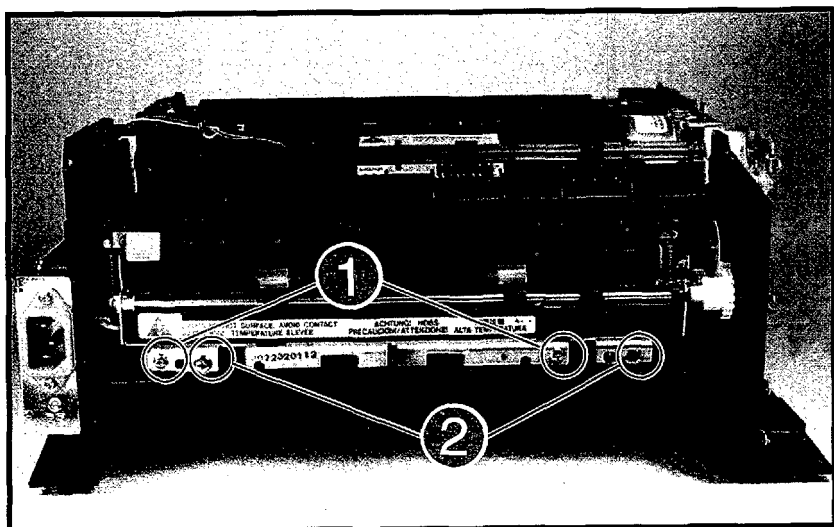
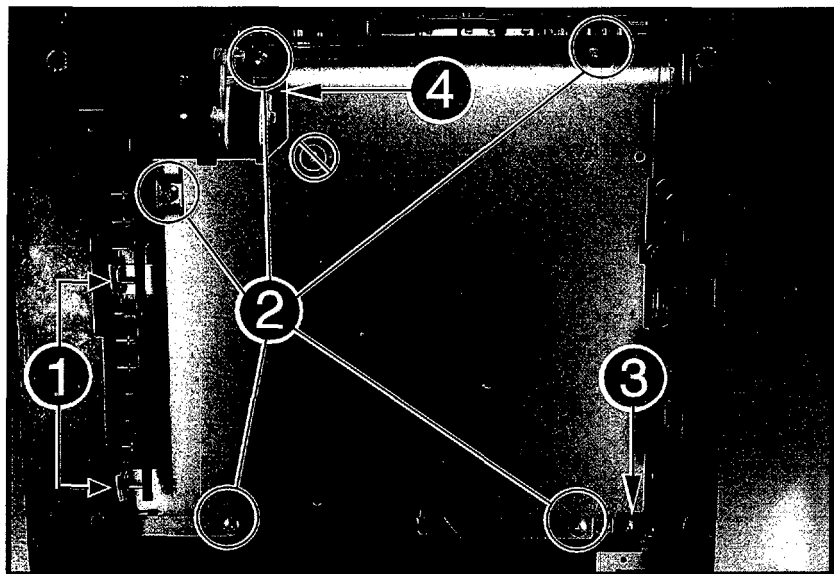
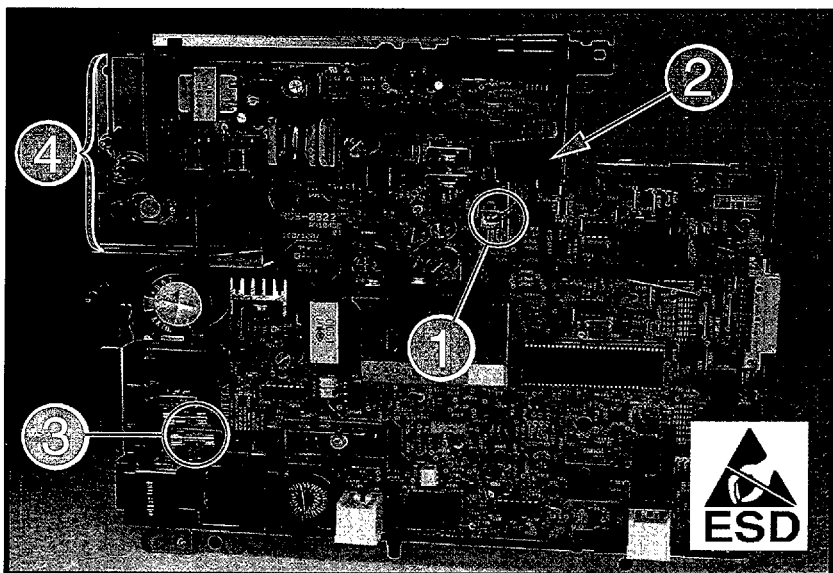
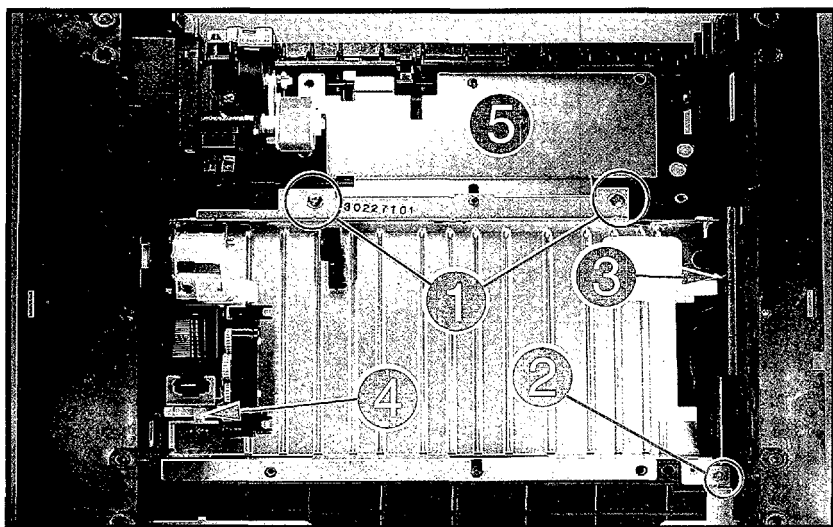

Figure 6-27 Removing the Fusing Assembly (LaserJet 4P shown)
Figure 6-36 Removing the DC Controller Assembly
Figure 6-37 Pickup Feed Roller Solenoid (on DC Controller PCA)
Figure 6-44 Removing the Feeder Guide Assembly (LaserJet 4P shown)
2. Remove the machine screws with star washers (1 on 4L/4ML, 2 on 4P/4MP) (Figure 6-27, callout 1).
3. Remove the (2) self-tapping screws (Figure 6-27, callout 2).
1. Remove the Printer Cover, the Fusing Assembly (Figure 6-27), the Formatter Shield and PCA (Figure 6-13), and the Power Switch Assembly (*LaserJet 4P/4MP only* - Figure 6-23).
2. Remove the (2) screws that attach the grounding springs to the Gear Train Assembly (Figure 6-36, callout 1).
3. Remove the (5) self-tapping screws and the (1) machine screw from the bottom of the DC Controller Assembly (Figure 6-36, callouts 2 and 3). Do not remove the Pickup Solenoid screw (crossed circle in Figure 6-36).
4. Push the Pickup Feed D-Roller solenoid arm in and rotate the D-Roller down, clear of the solenoid arm (Figure 6-36, callout 4).
When removing the DC Controller Assembly there will be resistance where the connectors are attached (on the left in Figure 6-36). A firm tug may be necessary to free the assembly.
When reinstalling the DC Controller, be sure to use a short length (6 mm) machine screw at Figure 6-36, callout 3. A longer (10 mm) screw will obstruct the Fusing Assembly.
1. Remove the Fusing Assembly (Figure 6-27), the Formatter Shield and PCA (Figure 6-13), and Power Switch Assembly (*LaserJet 4P/4MP only* - Figure 6-23), and the DC Controller Assembly (Figure 6-36).
2. Remove the (1) machine screw holding the Pickup Solenoid from the lower side of the DC Controller Assembly (the crossed circle shown in Figure 6-36).
3. Unplug the Pickup Solenoid connector (Figure 6-37, callout 1) and remove the solenoid (Figure 6-37, callout 2).
There are two in-line fuses (one on 220 V units) on the component side of the DC Controller PCA (shown in Figure 6-37, callout 3). (The rated amperages are printed on the PCA.) Pull outward to remove.
This assembly is mounted on the component side of the DC Controller PCA, and provides high voltage contact points to the toner cartridge (shown in Figure 6-37, callout 4). To remove, press the two tabs in on either side of the cover and lift it straight up and off.
1. Remove the Fusing Assembly (Figure 6-27), the Formatter Shield and PCA (Figure 6-13), and the Power Switch Assembly (*LaserJet 4P/4MP only*- Figure 6-23).
2. Remove the DC Controller Assembly (Figure 6-36), Pickup Solenoid, and High Voltage Connector Assembly (Figure 6-37).
1. Remove the Printer Cover, the Fusing Assembly (Figure 6-27), the Formatter Shield and PCA (Figure 6-13), the Power Switch Assembly (*LaserJet 4P/4MP only*- Figure 6-23), and the DC Controller Assembly (Figure 6-36).
1. Remove the Printer Cover, the Fusing Assembly (Figure 6-27), the Formatter Shield and PCA (Figure 6-13), the Power Switch Assembly and Font Cartridge Bracket (*LaserJet 4P/4MP only*-Figure 6-23 and 6-16), and the DC Controller Assembly (Figure 6-36).
2. Remove the (2) self-tapping screws and the (1) machine screw from the Feeder Guide (Figure 6-44, callouts 1 & 2).
3. *LaserJet 4P/4MP*: Push the power switch grounding strap outward to provide clearance (Figure 6-44, callout 3).
LaserJet 4P/4MP: Carefully free the Small Media Roller drive shaft before lifting upward to avoid damage (Figure 6-44, callout 4).
LaserJet 4P/4MP: Carefully align the Small Media Roller drive shaft (Figure 6-44, callout 4) before installing the Feeder Guide.
1. Remove the Printer Cover, the Fusing Assembly (Figure 6-27), the Formatter Shield and PCA (Figure 6-13), the Power Switch Assembly (*LaserJet 4P/4MP only*- Figure 6-23), the DC Controller Assembly (Figure 6-36), and the Feeder Guide Assembly (Figure 6-44).
Carefully align the Small Media Roller drive shaft (Figure 6-44, callout 4) before sliding the Feeder Guide into place.
2. Remove the Laser/Scanner Assembly (Figure 6-21), the Gear Train Assembly (Figure 6-15), the DC Controller Assembly (Figure 6-36), and the Feeder Guide Assembly (Figure 6-44).